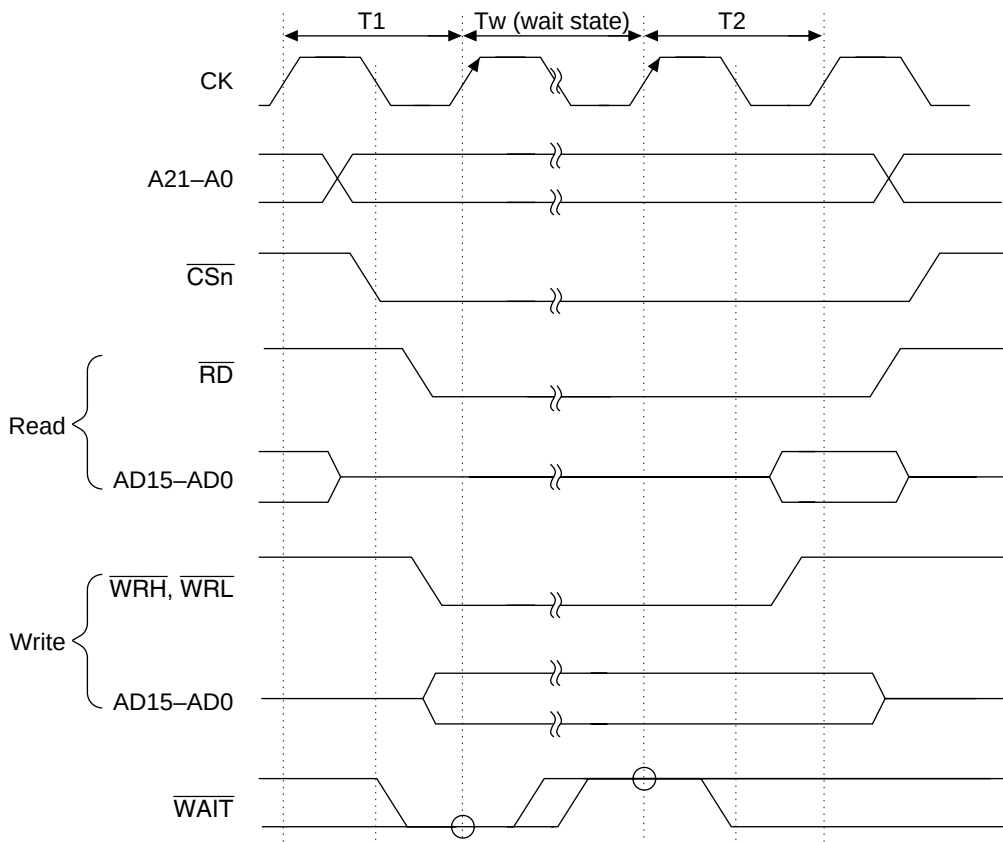

**Figure 8.13 Wait State Timing for External Memory Space Access (2 States Plus Wait States from WAIT Signal)**
For the CPU read cycle, DMAC dual mode read cycle, and DMAC single mode read/write cycle, the access cycle is completed in 1 state when the corresponding bits of WCR1 and WCR2 for areas 1, 3–5, and 7 are cleared to 0 and the  $\overline{\text{WAIT}}$  pin input signal is not sampled. When the bits are set to 1, the  $\overline{\text{WAIT}}$  signal is sampled and the number of states is 2 plus the number of wait states set by the  $\overline{\text{WAIT}}$  signal. The  $\overline{\text{WAIT}}$  signal is sampled at the rise of the system clock (CK) directly preceding the second state of the bus cycle and the wait states are inserted as long as the level is low. When a high level is detected, it shifts to the second state (final state). Figure 8.13 shows the wait state timing when accessing the external memory spaces of areas 1, 3, 4, 5, and 7.
For CPU write cycles and DMAC dual mode write cycles to external memory space, the number of states and wait state insertion cannot be controlled by WCR1. In areas 1, 3, 4, 5, and 7, the  $\overline{\text{WAIT}}$  signal is sampled and the number of states is 2 plus the number of wait states set by the  $\overline{\text{WAIT}}$  signal (figure 8.13). In areas 0, 2 and 6, the number of states is 1 state plus the number of long wait states plus the number of wait states set by the  $\overline{\text{WAIT}}$  signal (figure 8.14). Do not write 0 in bits 7-2 and 0 of WCR1; only write 1. When area 1 is being used as external memory space, do not write 0 in bit 1 (WW1); always write 1.